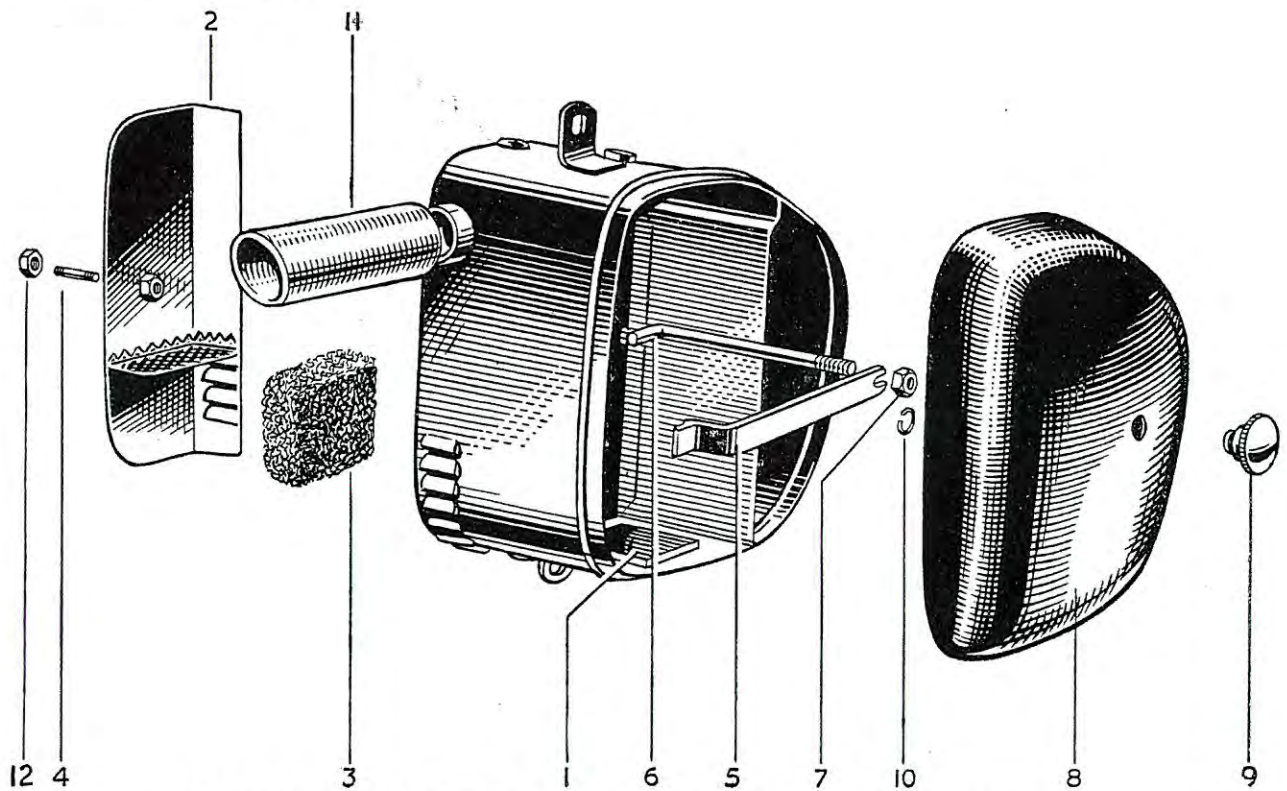

FIG. 10. TOOLBOX, BATTERY CARRIER AND AIR CLEANER.
*Illustrated on Page 34—Fig. 10*